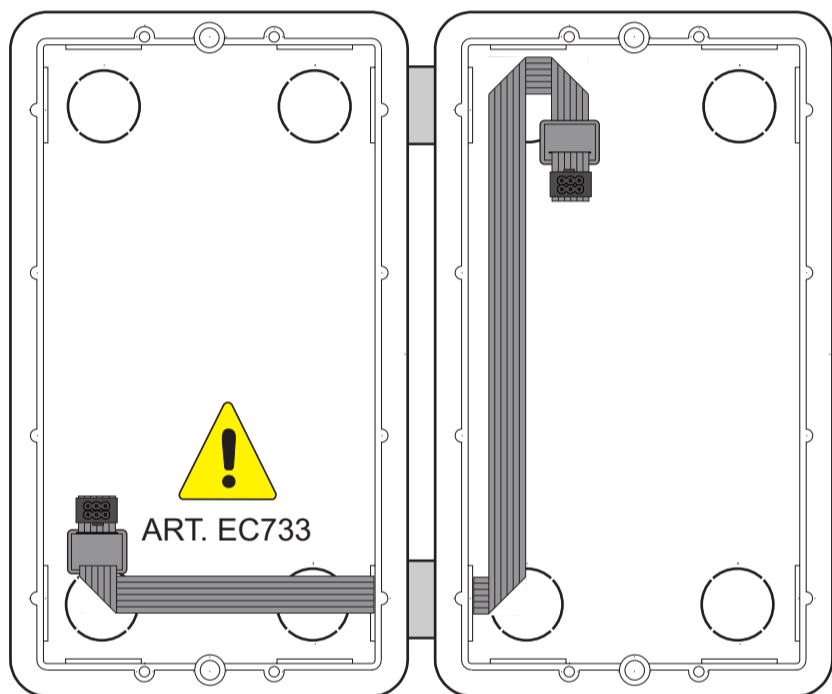

Fig. 3
- If necessary, between one box and the next, place the flat cable Art. EC733 along (Figure 3).